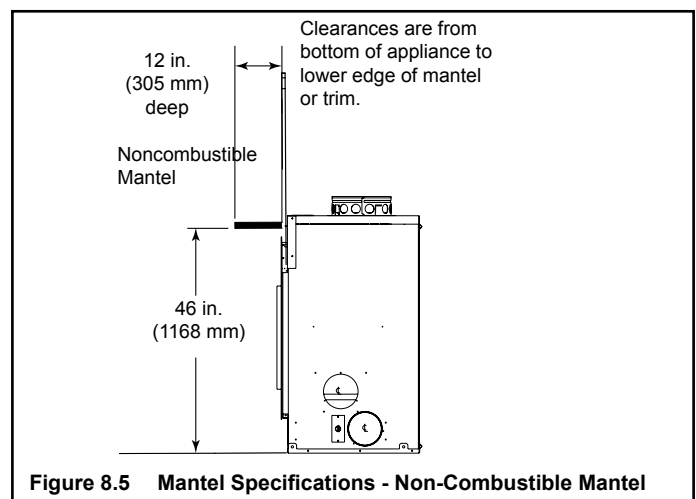

Figure 8.5 Mantel Specifications - Non-Combustible Mantel
A noncombustible mantel may be positioned no lower than 46 in. (1168 mm) from the base of the fireplace. See Figure 8.5.
- Refer to Figure 8.5 for minimum dimensions.
Non-combustible flooring a minimum of 20 in. (508 mm) in front of and 8 in. (203 mm) to either side of the fuel opening is required (see Figure 8.5).